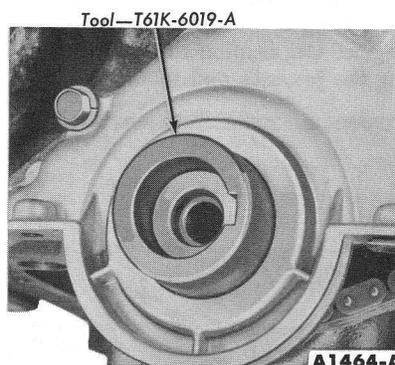

FIG. 53—Cylinder Front Cover Alignment
2. Clean the cylinder front cover and the gasket surface of the cylinder block. Apply sealer to a new cylinder front cover gasket and position the gasket on the cylinder front cover. Install the cylinder front cover using the tool shown in Fig. 53 (the crankcase ventilation tube bracket is retained by one cylinder front cover bolt). Torque the retaining bolts to